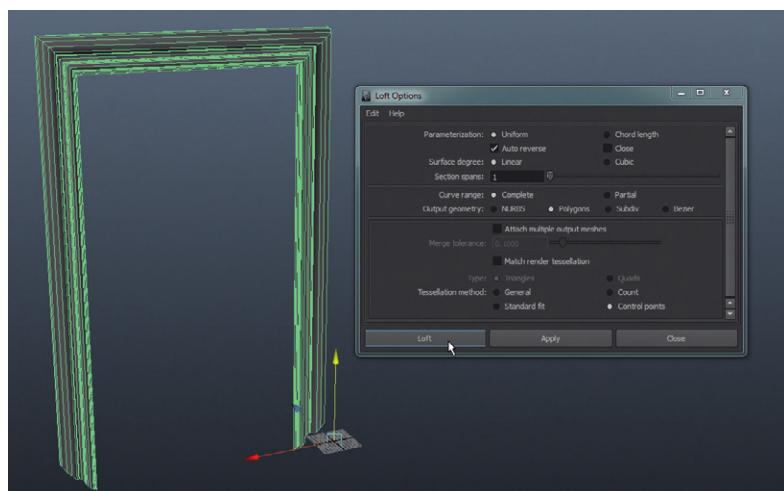

FIG 3.83 Lofted surface – note the results are a polygon form.
Step 20: Loft the curves into a polygonal shape. Do this by first selecting the curves in order (select curve #1, Shift-select curve #2, Shift-select curve #3, and Shift-select curve #4). Then, choose Surfaces|Surfaces > Loft (Options). Change the Surface Degree: to Linear. Change the Output Geometry: to Polygons. Change the Tessellation Method: to Control Points. Hit Loft (Fig. 3.83).